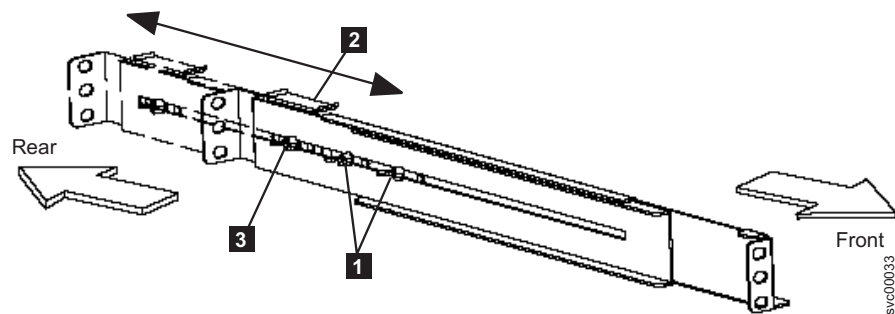

Figure 27. Adjusting the rail depth on the 2145 UPS-1U
4. Loosen the assembly wing nuts (**1** in Figure 27) on both rail assemblies and adjust the rail size to the depth of your rack.
5. Position the rear, hold-down bracket (**2** in Figure 27 on page 36) towards the end of the rail assemblies and tighten the wing nut (**3** in Figure 27 on page 36).